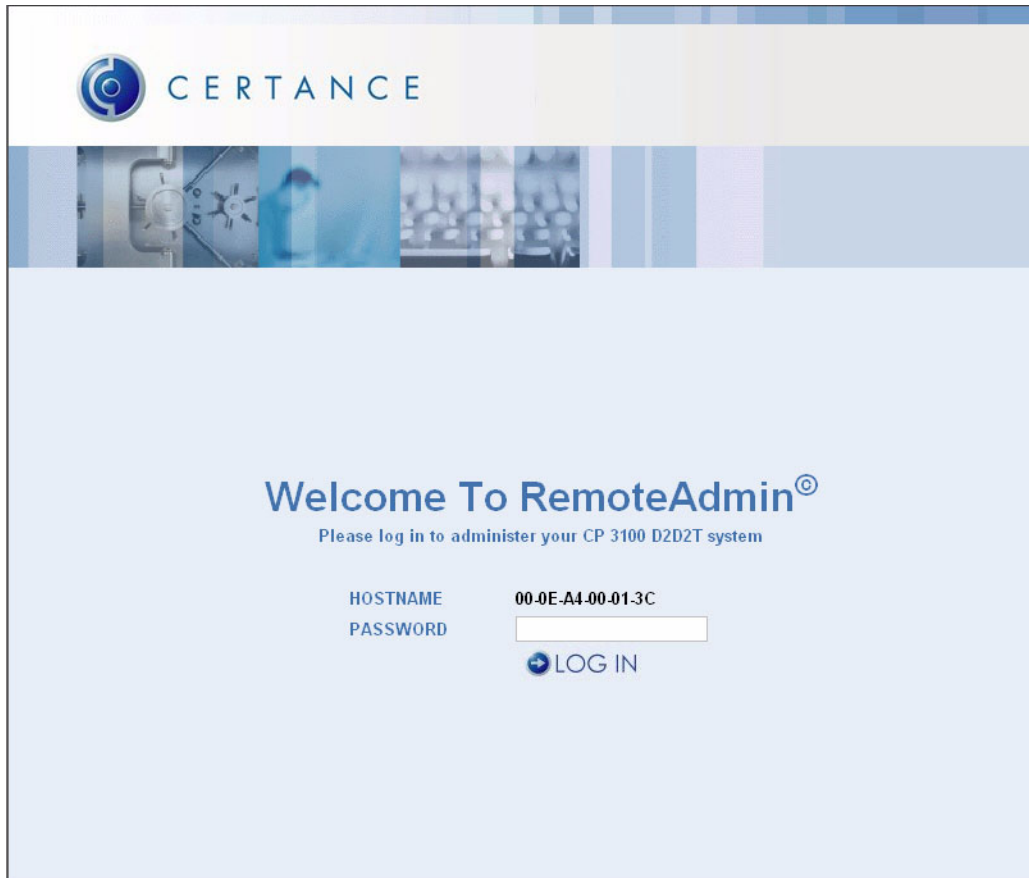

Figure 21. Welcome Page
1. Start a Web Browser on a computer that is on the same subnet as the CP 3100. In the Browser’s address line, enter the IP address of the CP 3100. If this is the first time you are logging in, enter the default IP address 192.168.0.250. Otherwise, enter the IP address previously configured for the CP 3100. The Welcome page appears (see Figure 21 on page 45).